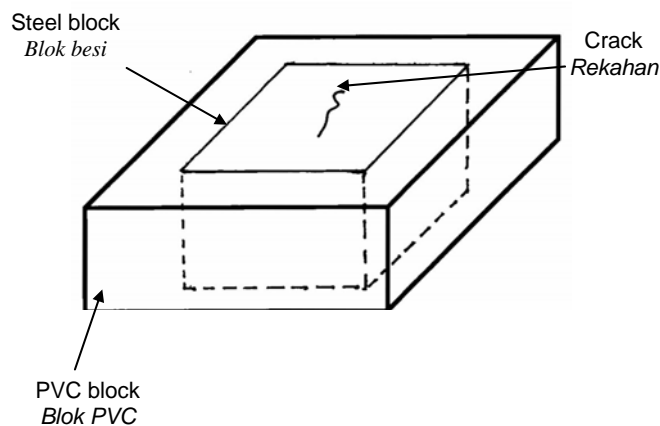

Figure 1: Steel and ABS block
1. Figure 1 shows a cracked steel block ($30 \times 30 \times 15 \text{ cm}^3$) in acrylonitrile butadiene styrene (ABS) polymer block.
- [b] Based on Figure 1, explain and draw the sequence for magnetic particle test.